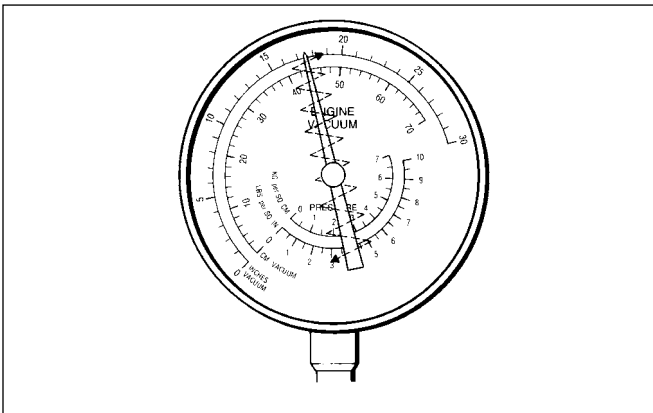

Fig. 1-11. Worn valve guides. Vibrating needle at idle, steadies at speed.
- A rapidly vibrating needle at idle that steadies as engine speed increases indicates worn valve guides, figure 1-11